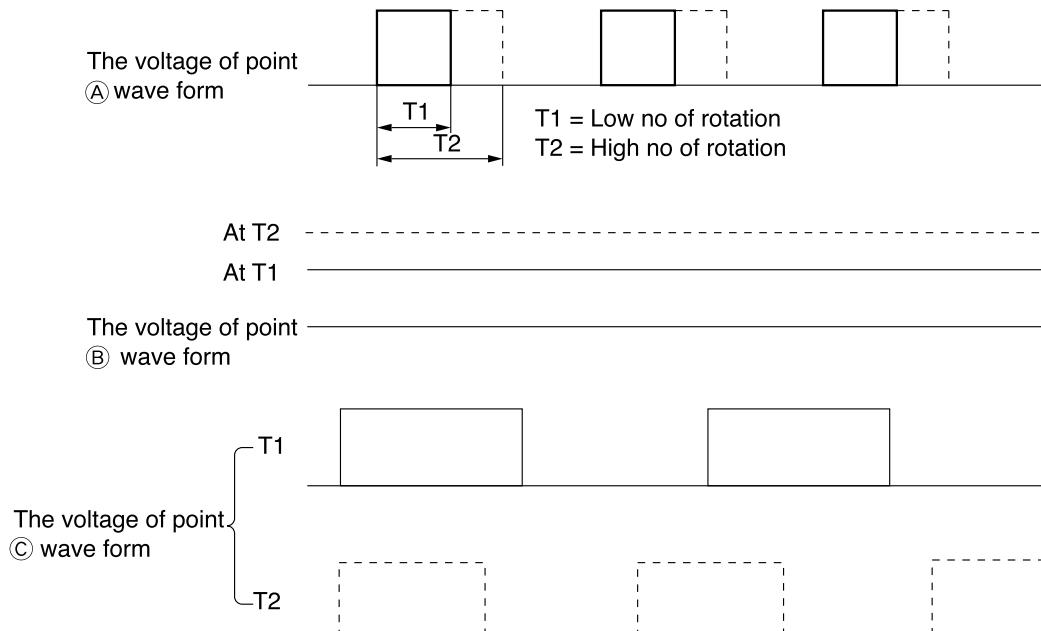

Fig. 6-2
- The 15.7 kHz PWM pulse shown in Fig.6-2 from the micro computer pin ⑤4 is output to point ④. The width of this pulse changes with instruction number of rotations.